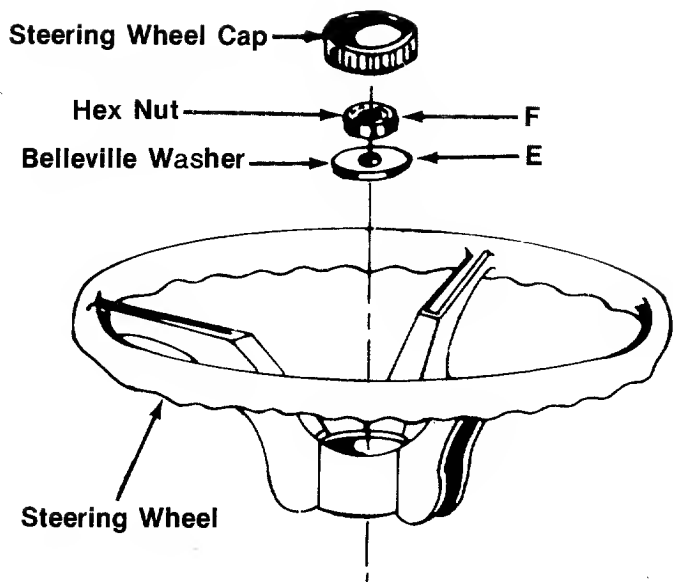

FIGURE 2. STEERING WHEEL ASSEMBLY
Step 3. Secure with Belleville Washer (E) and Hex Nut (F). See figure 2.
Step 4. Press the cap on the steering wheel by hand. See figure 2.